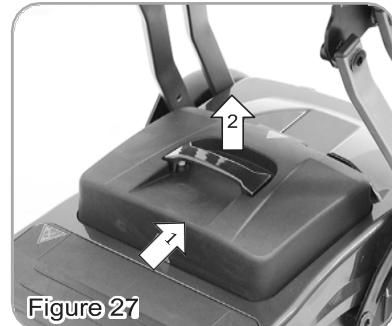

Figure 27
- The battery box is designed for a better stability. Please follow the instruction to disassemble the battery box (figure 27). Push the battery backwards (1.) and pull it upwards (2.).